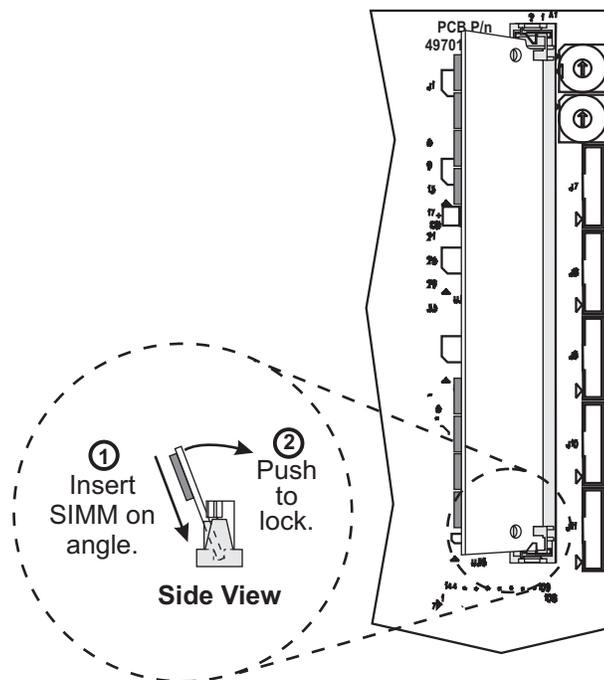

Figure 6-3. SIMM Installation
1. Refer to RRP No. 1 on page 4-13. Turn the printer Off (O) and remove the AC power cord. Remove any communication cables.
3. Refer to Figure 6-3. Locate the SIMM socket on the main logic board.
7. Print a configuration label by pressing and holding the **FEED** key while turning the AC power switch On (I).